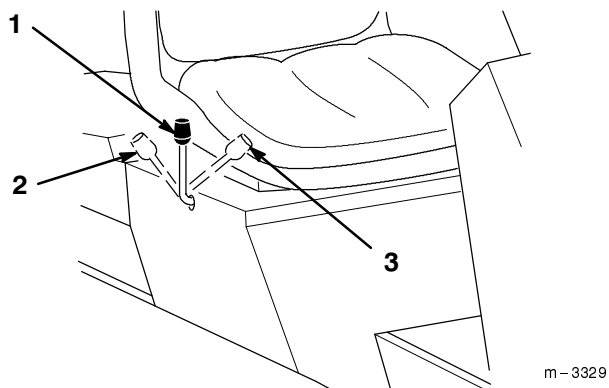

Figure 6
2. Release pressure on the traction pedal to stop movement (Fig. 6).
3. To engage lift cover and move the PTO switch to the "ON" position (Fig. 6).
The implement lift lever (Fig. 6) is used to raise and lower various attachments.
2. Pull implement lift lever (Fig. 6) rearward to raise attachment to the desired height.
2. Push implement lift lever (Fig. 6) forward to lower attachment.